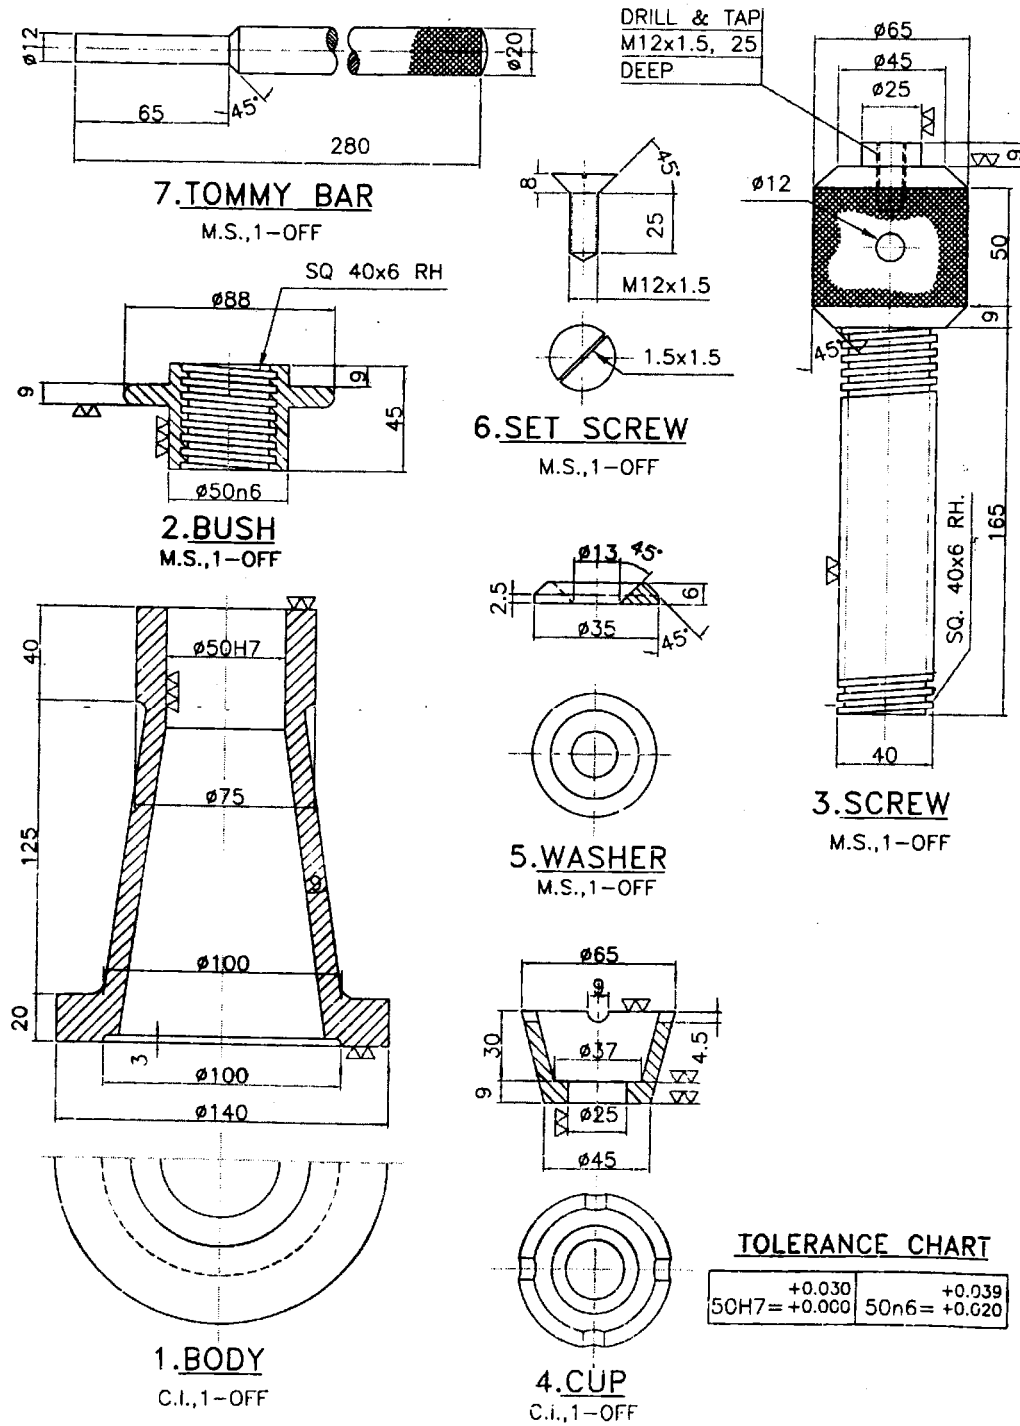

Fig. No. 4
- (a) Fig. No. 4 shows details of screw jack. Draw sectional FV & TV of assembly. Prepare bill of material. Indicate type of fit.